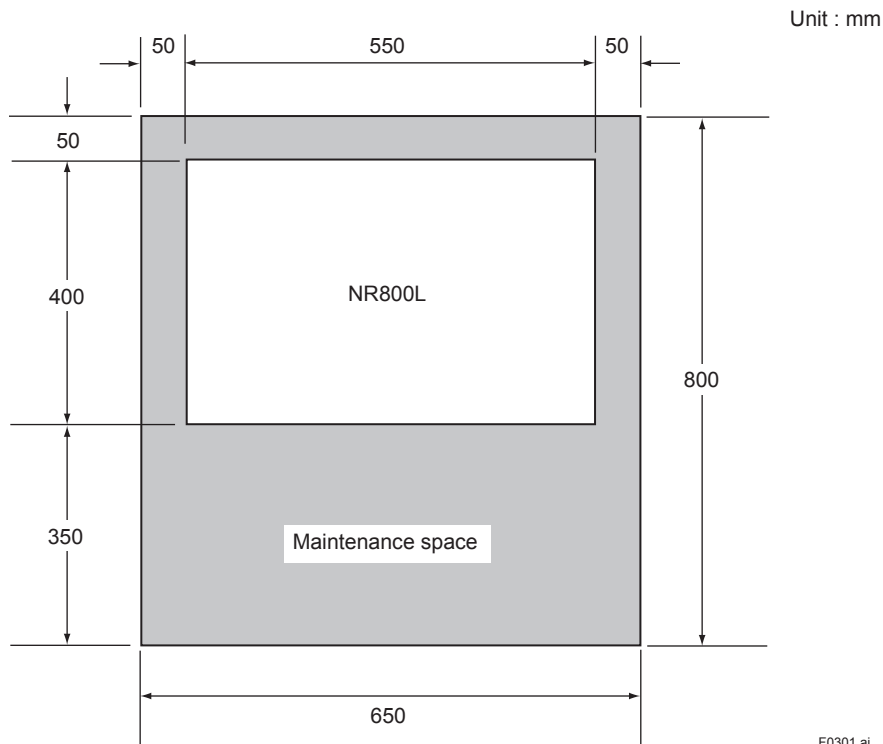

Figure 3.1 Maintenance space for NR800L analyzer
- **Minimal mechanical vibration (Refer to Figure 3.1)**
When installing the analyzer, keep space around it to facilitate operation and maintenance, as illustrated in Fig. 3.1.